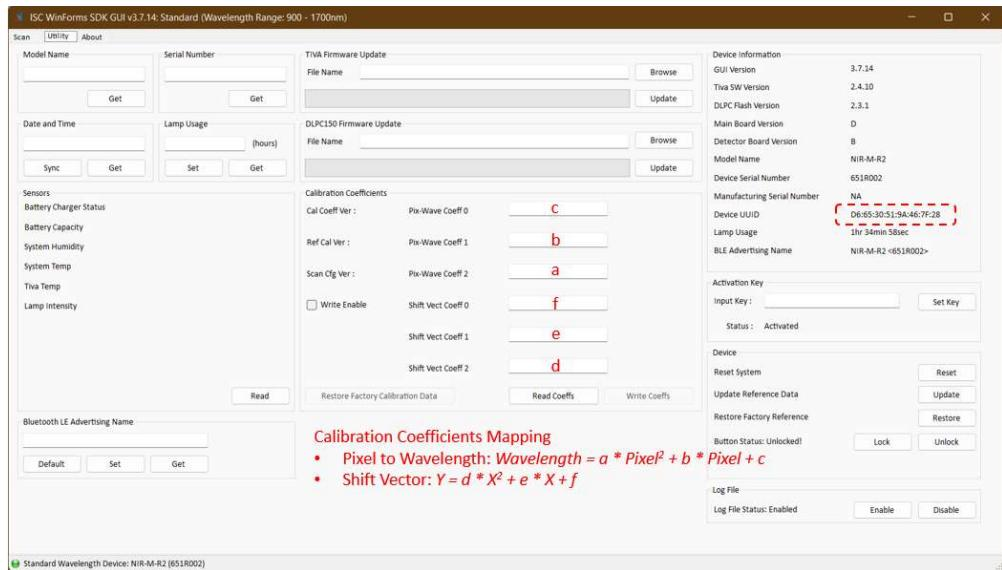

**Figure 1-4 Saved Scans**
- To plot a file, select one of the files as shown in Figure 1-4. The selected file will show the scan configuration used at that time. It also supports multiple selection and overlay functions. If selecting multiple scan files, the scan configuration only displays the latest selected information.